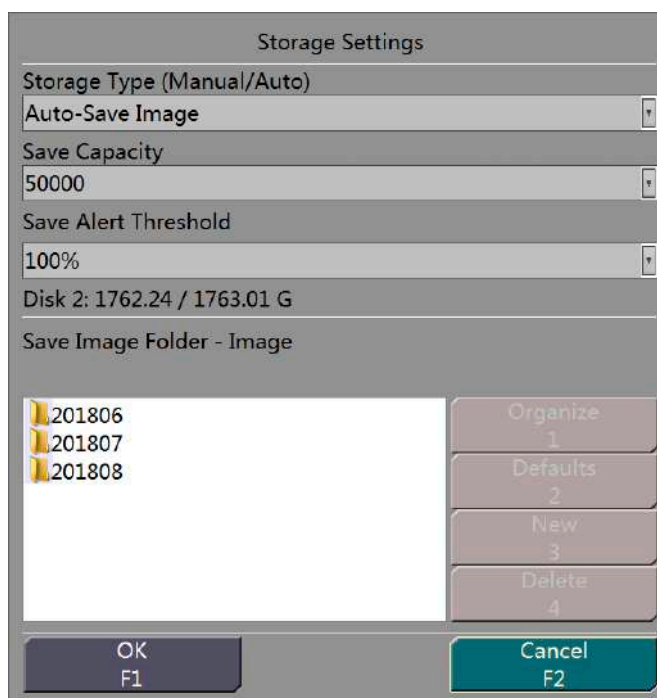
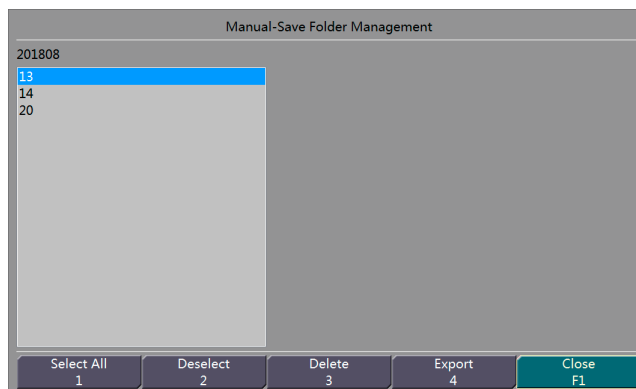
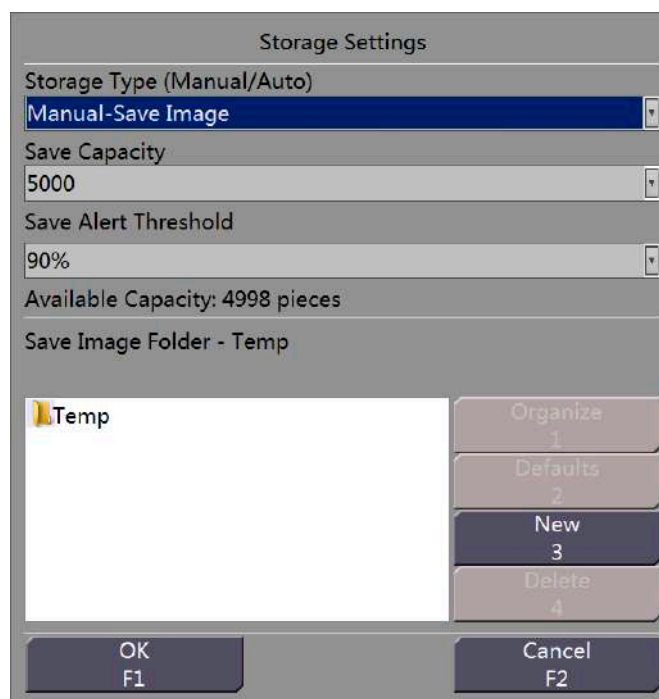

Figure 18-14 Storage Settings Interface
Figure 18-16 Saved Image Folder Management Window
Figure 18-18 Storage Settings Interface
Step 1 Choose System Settings > Storage Settings to display an interface as shown in Figure 18-14.
Organize the saved files with the "Organize" button, open the "Saved Image File Management" window, as shown in Figure 18-16.
Step 1 Choose System Settings > Storage Settings to display an interface as shown in Figure 18-14. Set the "Storage Type" to "Manual Save" and enter the interface as shown in Figure 18-18.
Step 5 To organize manual-save image folders, click “Organize” to display an interface, as shown in Figure 18-18. On the interface, you can export or delete folders. After that, click “Close” to return to the interface shown in Figure 18-16.